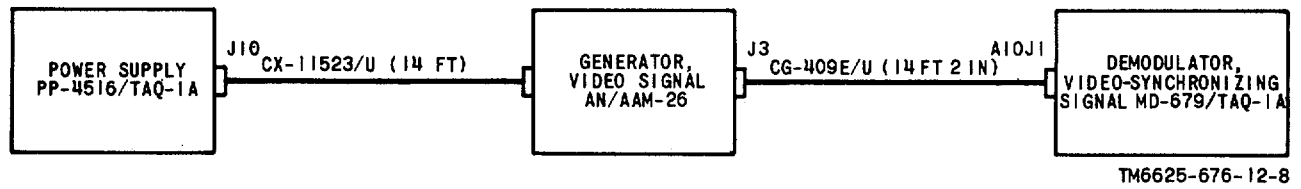

Figure 2-3. Interconnection diagram for surveillance information center tests.
b. When the video generator is used to test the surveillance information center, connect the AN/AAM-26 to Power Supply PP-4516/TAQ-1A and Demodulator, Video-Synchronizing Signal MD-679/TAQ-1A as shown in figure 2-3. Connect the video signal cable to EXT VIDEO connector A10J1 on the demodulator.